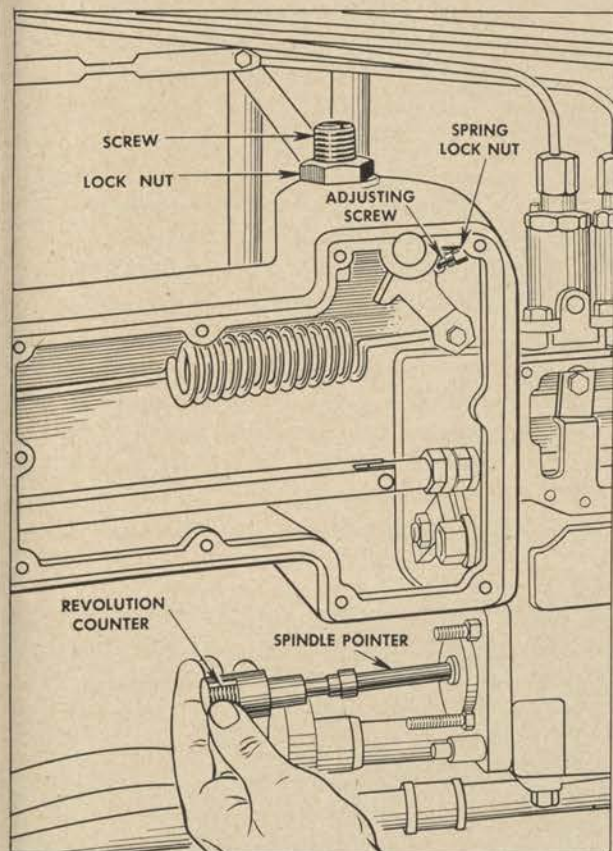

Figure 180. Checking engine speed.
1. *General.* Engine speed can be checked at the rear of the fuel injection pump cam shaft which operates at one-half engine speed. Remove the hour meter and install the pointer spindle (fig. 180) on the end of the cam shaft over the thrust
2. *Low idle speed adjustment.* Operate the engine at low idle speed and check the engine rpm from the pointer spindle, using a revolution counter (fig. 180) equipped with a cup-shaped rubber tip. Adjust the low idle speed from the outside of the governor spring housing by turning the screw (fig. 180) at the top of the housing. Loosen the lock nut and turn the screw in to increase the low idle speed, or out to decrease the speed. Alter the position of the hand throttle when making the low idle adjustment, to insure that the governor lever is properly contacting the spring loaded adjusting screw stop. Lock the nut after making the final adjustment, to obtain an engine speed of approximately 425 rpm.
(a) Remove the cover from the governor spring housing and loosen the lock nut (fig. 180)
- (k) If the speed is more or less than 950 rpm, vary the position of the throttle control lever adjusting screw and the knurled nut to obtain a balance at 950 rpm. This insures the maximum hp output of the engine at 950 rpm, although the high idle speed may now be below 1,055 rpm. After obtaining the correct throttle position, turn the adjusting screw (fig. 180) until it contacts the governor spring lever and locks it in position.